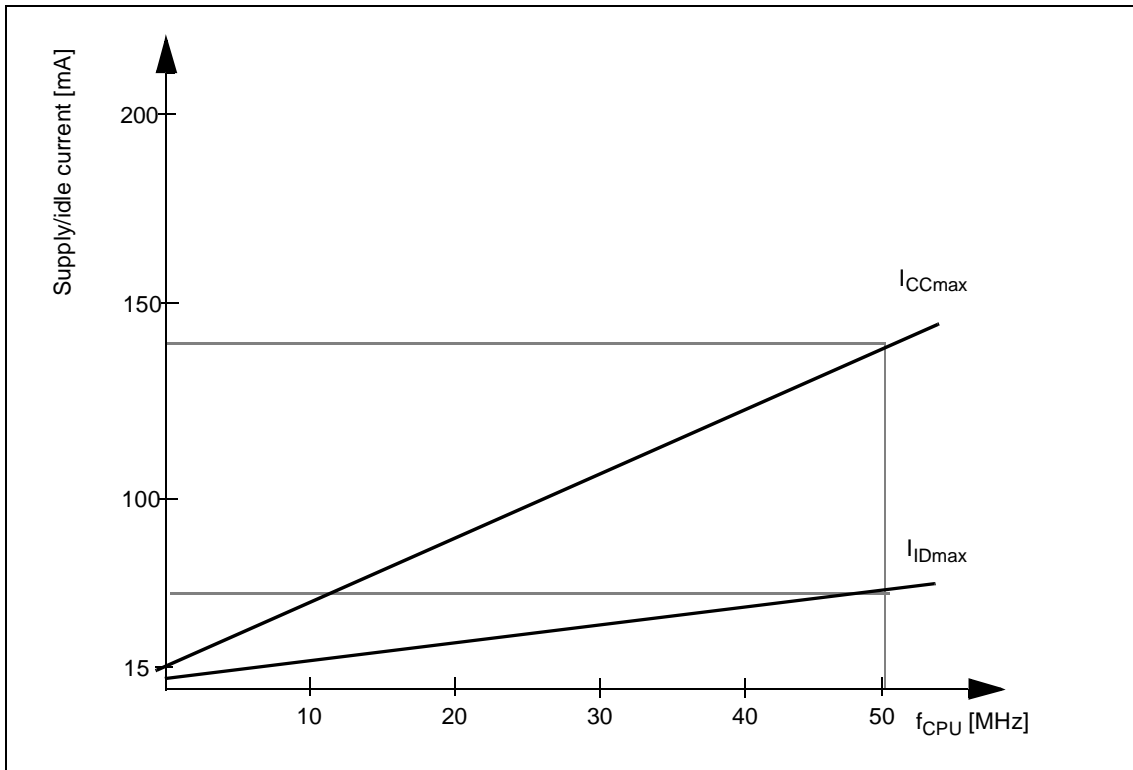

Figure 7 Supply/idle current vs operating frequency
- 7) Supply current is a function of operating frequency as illustrated in Figure 7 on page 35. This parameter is tested at  $V_{DDmax}$  and 50 MHz CPU clock with all outputs disconnected and all inputs at  $V_{IL}$  or  $V_{IH}$  with an infinite execution of NOP instruction fetched from external memory (16-bit demux bus mode, no waitstates, no memory tri-state waitstates, normal ALE).